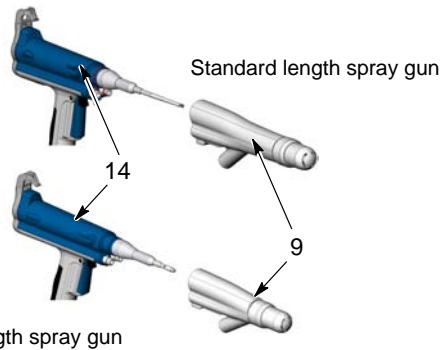

Figure 22 Removing the Adapter
- See Figure 22. Pull the adapter (9) straight off the gun body (14).
- See Figures 22 and 21. Install the adapter on the gun body. Tighten the set screw.
5. See Figures 22 and 21. Install the adapter over the electrode and resistor holders. Tighten the set screw.